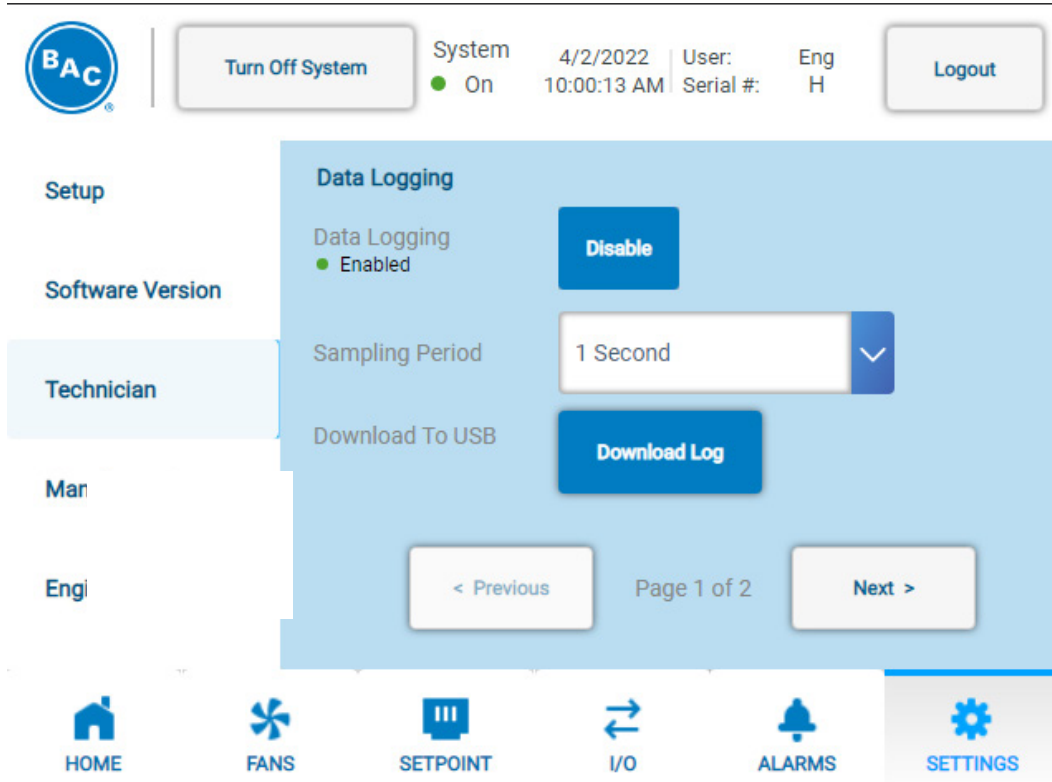
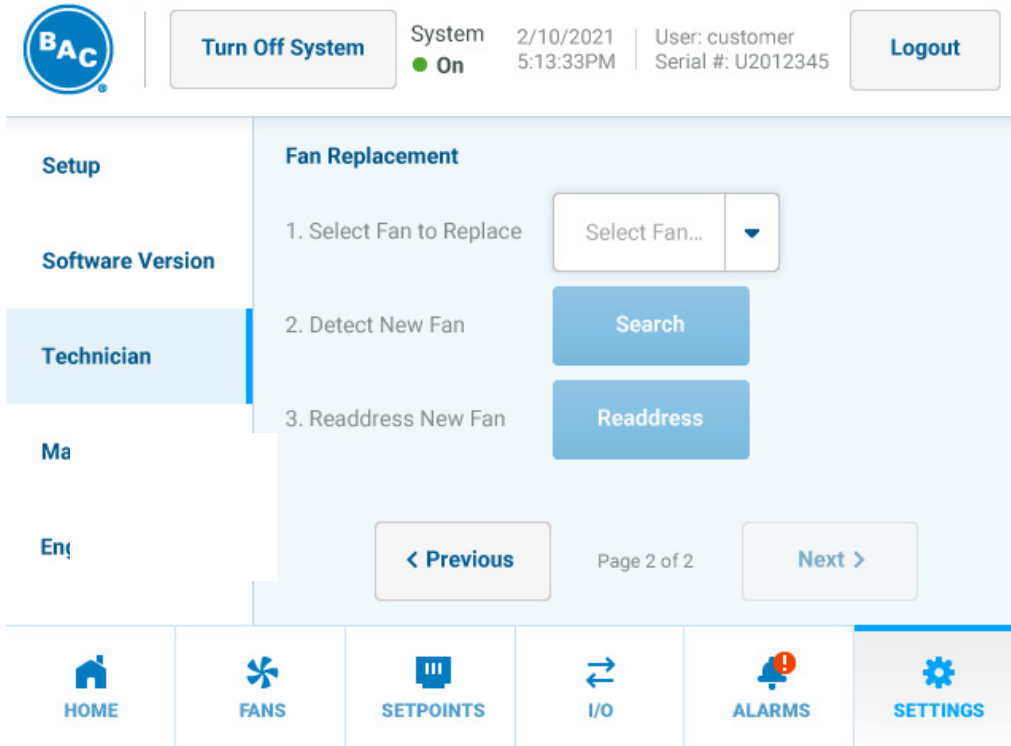

Figure 168. Settings Menu, Technician Page 1 of 2
Figure 169. Settings Menu, Technician Page 2 of 2
The Technician menu is only displayed and accessible with Technician access level. Refer to **Table 83. Access Levels and Passwords** on **Page 154**. The Technician menu is shown in **Figure 168** and **Figure 169** with parameters listed in **Table 109**.
Onboard data-logging records and stores the data listed in **Table 110**, which can be loaded onto a portable USB storage device in a comma separated value (CSV) file. The sampling period is determined by the Sampling Period shown in **Figure 169** and listed in **Table 109**. This information can be used for troubleshooting or energy modeling purposes. Data logging can be enabled/disabled via the Technician menu shown in **Figure 169**. To retrieve data-logging information:
2. Navigate to Settings menu, Technician Page 1 of 2 shown in **Figure 169**. Press “Download Log”. A loading bar will appear and display the current progress of the file downloads until complete.
7. Navigate to Settings menu, Technician Page 2 of 2 as shown in **Figure 169**.